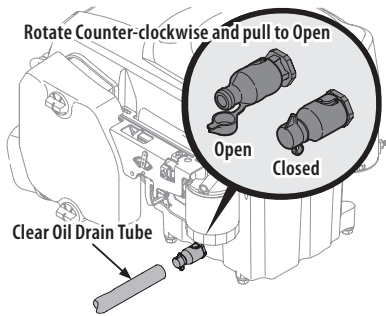

Fig. 34
4. Open the protective cap on the end of the oil drain valve to expose the drain port (Fig. 34 on page 27).
6. The engine is equipped with a twist-and-pull drain port. Turn the oil drain valve 1/4-turn counter-clockwise, then pull outward to begin draining oil. After the oil has finished draining, push the end of the oil drain valve back in and turn 1/4-turn clockwise to close the oil drain. Re-cap the end of the oil drain valve to keep debris from entering the drain port (Fig. 34).